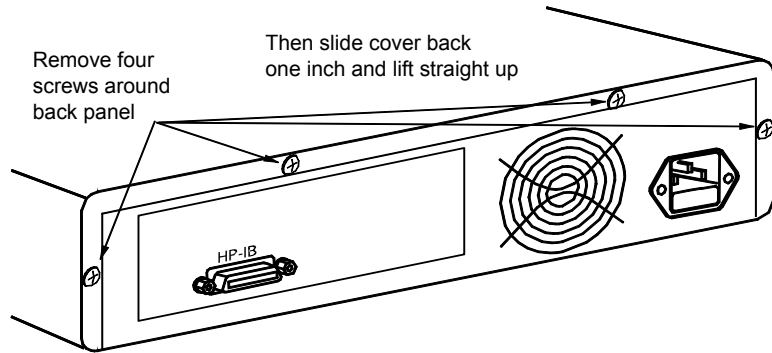

Fig. 1: 8631AF Rear View
24. Remove four screws securing the cover to the back panel. (Fig. 1)